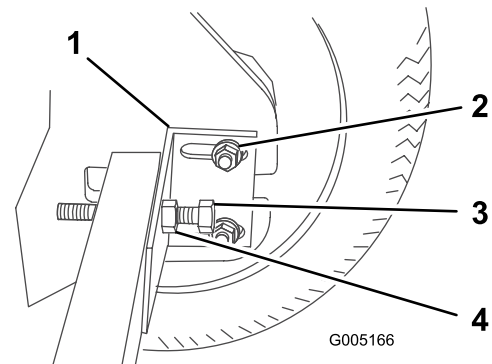

Figure 32
3. Loosen the nuts securing the axle retaining bracket (Figure 32).
4. Loosen the nut on the chain tensioning bolt and loosen the bolt (Figure 32).
to secure it in place (Figure 32) and torque the nut to 30 ft-lb (40.7 N·m).